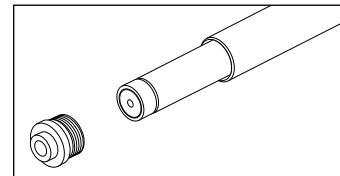

Fig. 4
- Apply a small amount of thread locking fluid onto the end plug thread. Install threaded end plug (Fig. 4), using a 14mm wrench. Torque to 30 to 40 in-lb.